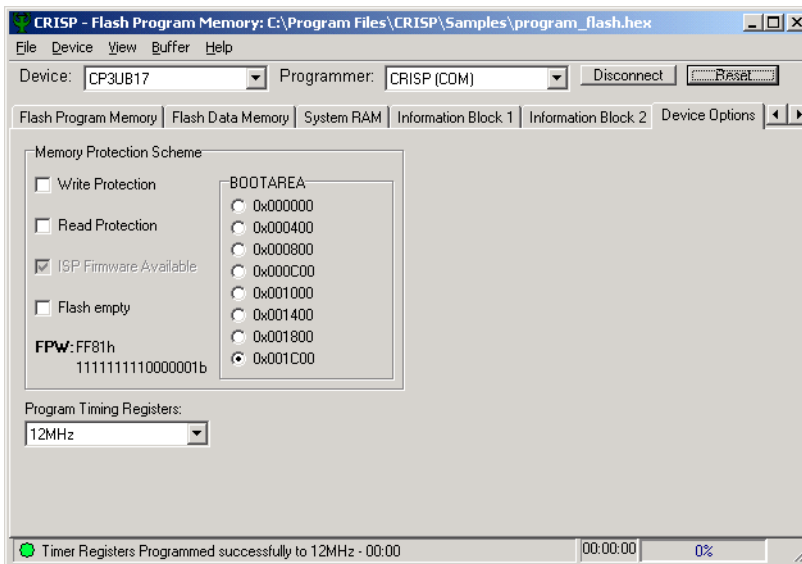

Figure 5-8. Successful Completion of Flash Timing Register Programming
3. **Flash Timing Programming Complete.** After the timing registers have been successfully programmed, CRISP will display the message "Timing Registers Programmed successfully to 12 Mhz" in the status bar, as shown in Figure 5-8.